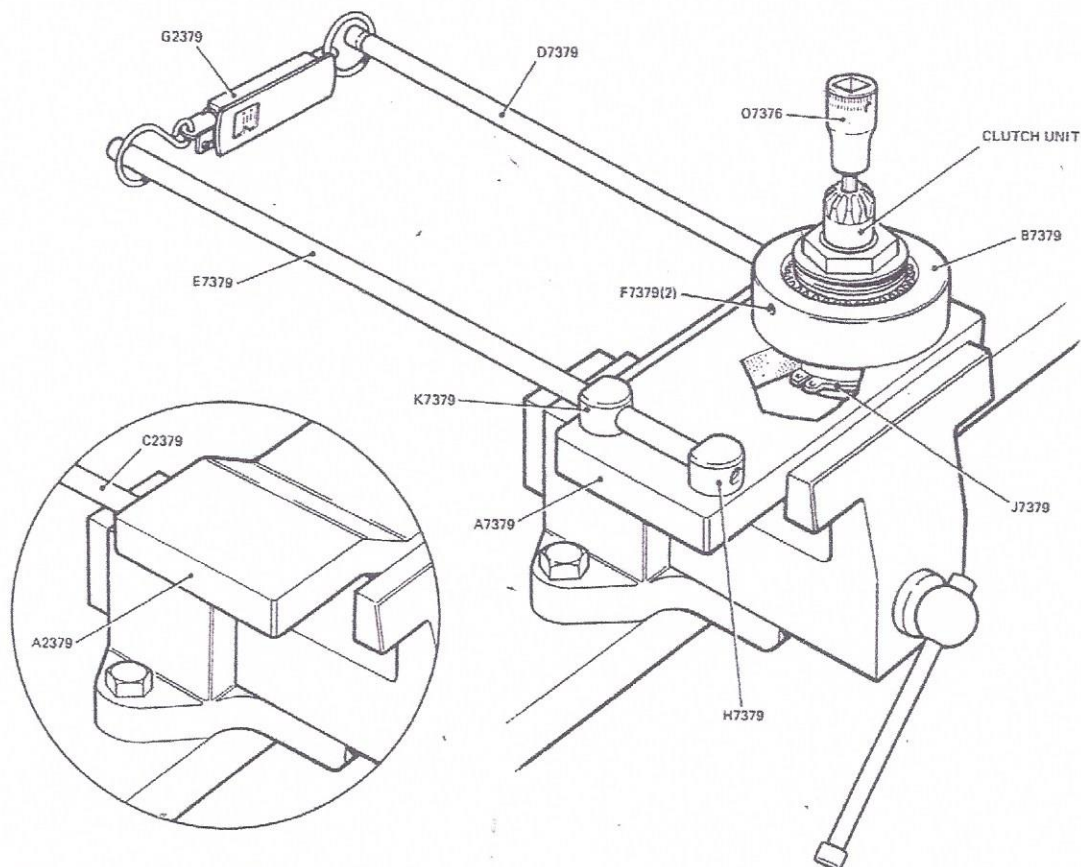

Figure 5 Clutch Torque Setting Rig 07379
*The various parts are illustrated in Figures 5, 15 and 16*
- 10.4.1 Place the clutch assembly in the Body B7379 in the Torque Setting Rig 07379 with the Clutch Lock Nut uppermost, as shown in Figure 5.